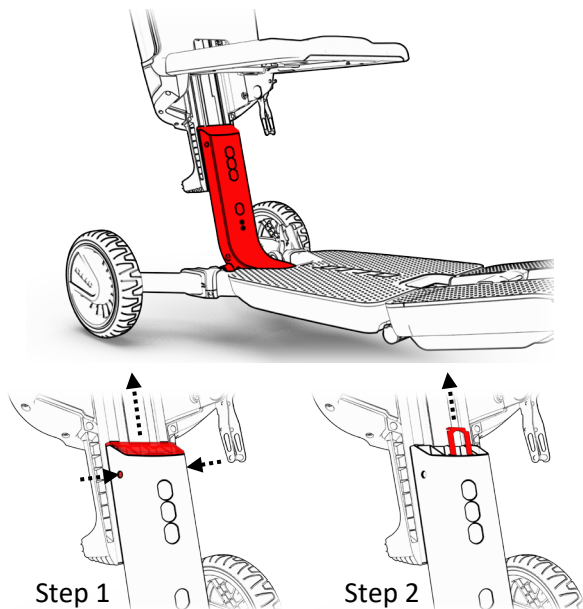

Figure 20 Seat height cover
1. ATTO must be in opened position in order to adjust seat height. Lift the seat to upright position, locate the seat height adjustment cover at the seat base right under the seat pivots and remove it by pressing on 2 side spots with a screwdriver (see Figure 20, Step 1).
2. Under the cover you will find a metal bracket that has to be removed. Hold the bracket between your fingers and lift it out. Remember the bracket position to make it easier to put it back in place again (see Figure 20, Step 2).